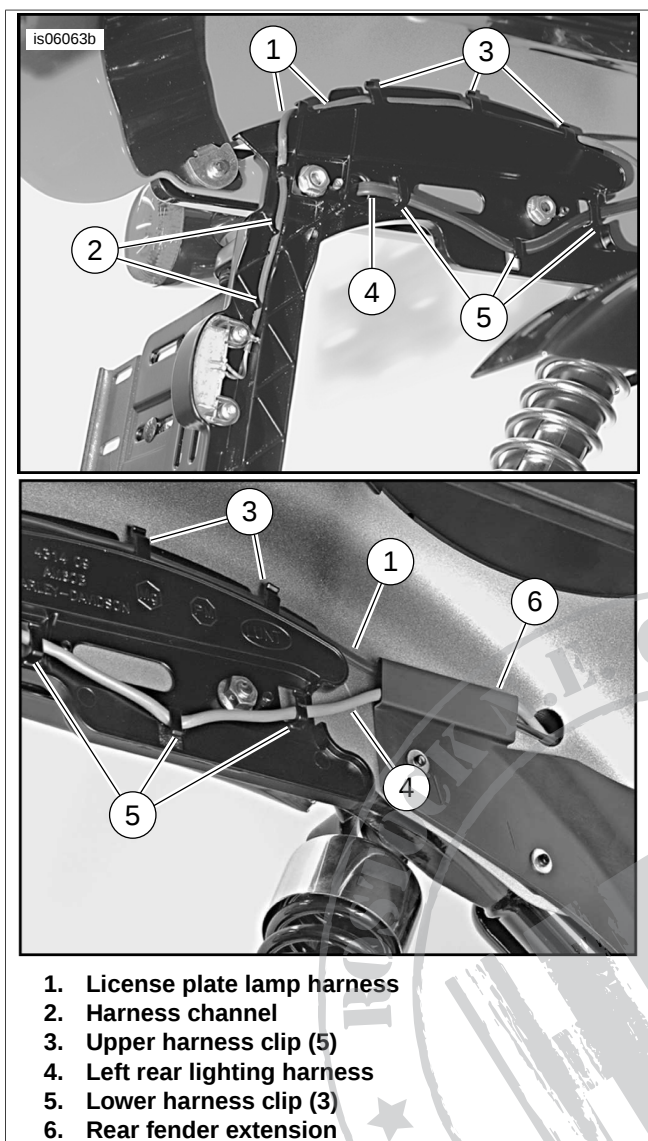
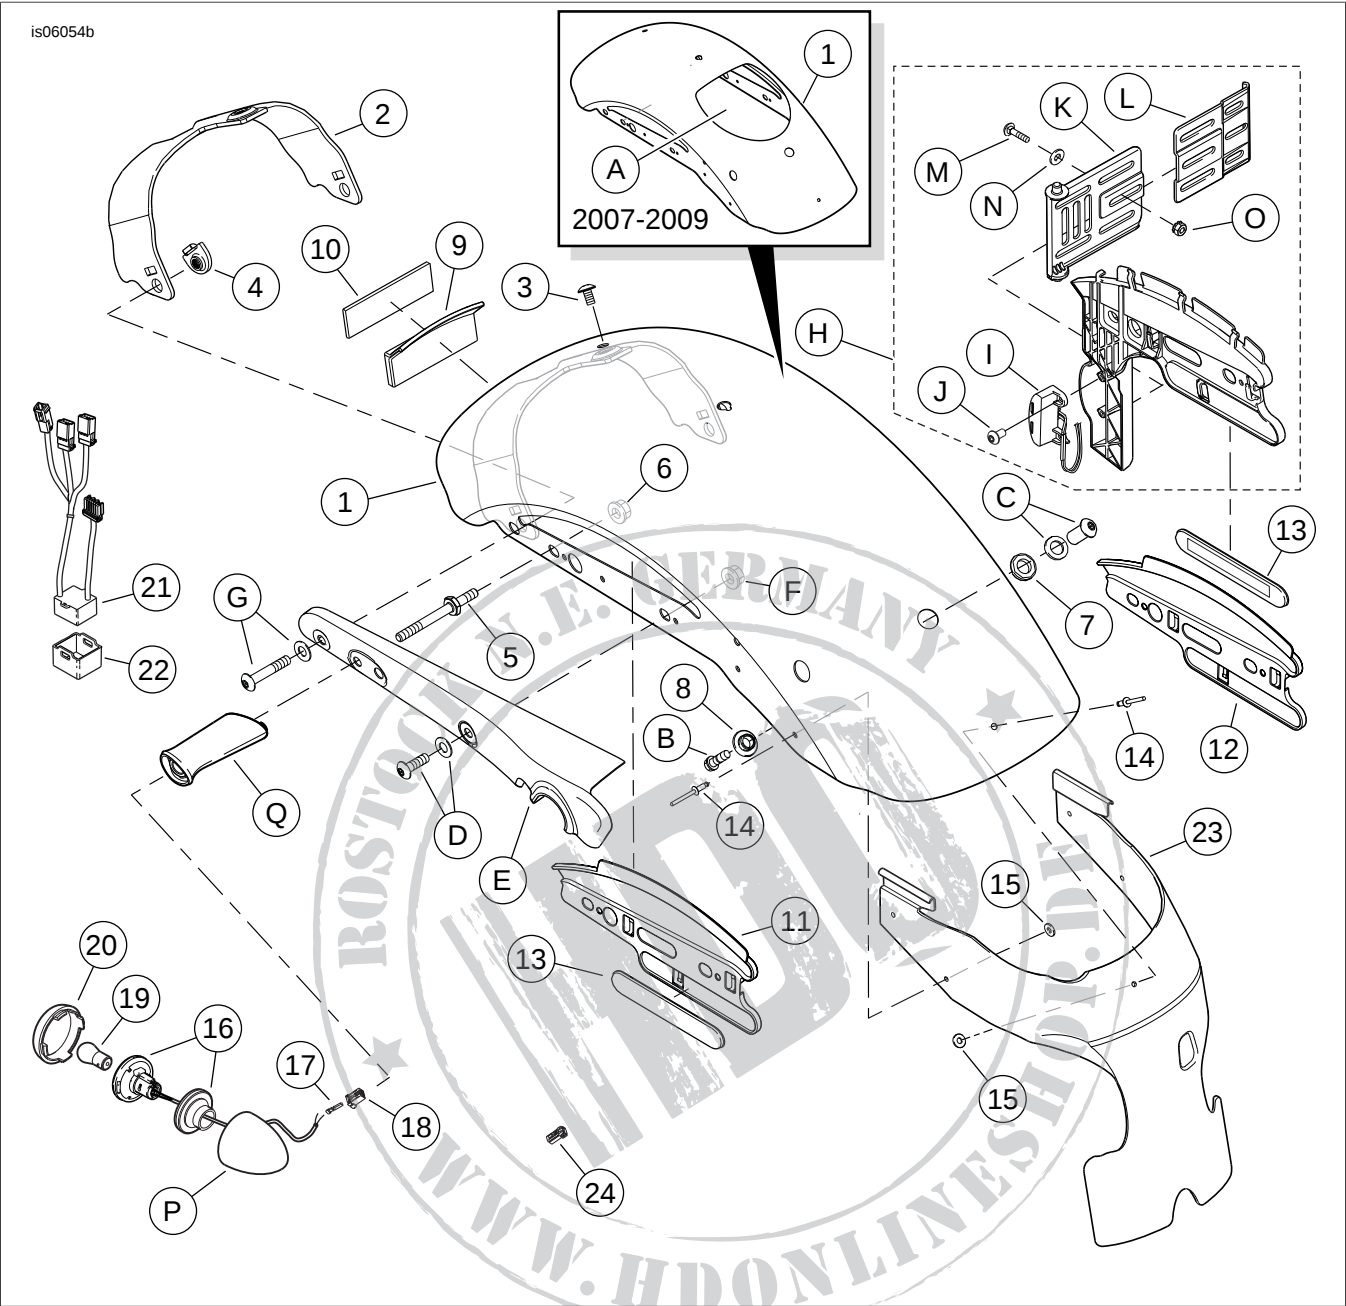

Figure 3. Rear Lamp Harness Routing
Figure 6. Service Parts: Sportster Chopped Fender Installation Kits
1. See Figure 6. Obtain the **new**, painted chopped rear fender (1), five pop rivets (14) and five washers (15) and the rear fender extension (23) from the kit.
14. See Figure 6. Tighten all fender mounting hardware in the following sequence:
- a. Tighten the screw (B) and seat post (C) to 96-156 **in-lbs** (10.9-17.6 Nm).
- b. Tighten the forward (D) and rearmost (G) fender support screws on both sides of the fender to 132-216 **in-lbs** (14.9-24.4 Nm).
- c. Tighten the rear lamp stalk flange nuts (6) to 132-216 **in-lbs** (14.9-24.4 Nm).
- d. Tighten the rear fender brace screw (3) to 132-216 **in-lbs** (14.9-24.4 Nm).
15. See Figure 3 if installing side mount license plate 60318-07. Disregard if installing 60947-10. Feed the license plate lamp harness (1) up through the harness channel (2). Insert the harness into the upper license plate bracket harness clips (3) and the wire trough (6) above the rear fender extension.
17. **ALL models:** See Figure 6. Obtain the reflector mounting block (9) and rear reflector (10) from the kit
3. See Figure 3. Route the tail/stop/turn signal wire harnesses (4) through the lower harness clips (5) and the wire troughs above the rear fender extension, then over to the tail lamp converter module connectors [18B] and [19B]. Cut the unterminated wires and tubing to allow sufficient length to make the connections.
4. Obtain six terminals (17) and two socket housings (18) from the kit.